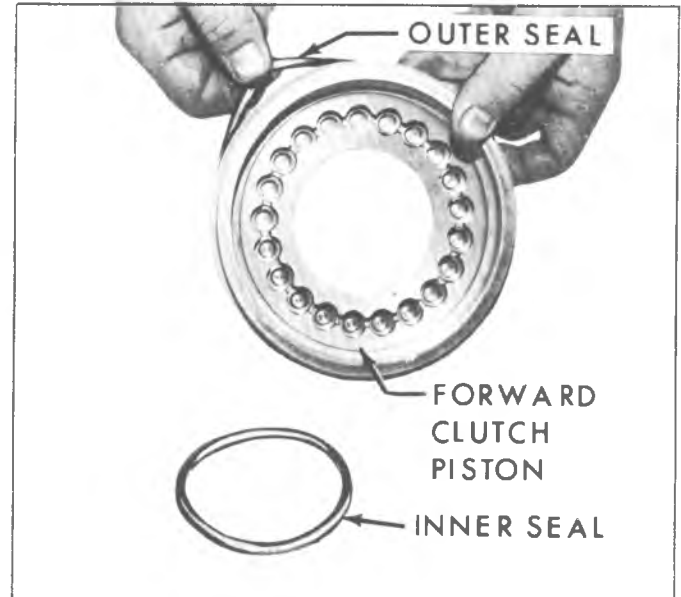

Fig. 7A-85B--Removing Forward Clutch Piston Inner and Outer Seals
2. Remove face plates, steel separator plates and cushion spring (fig. 7A-83B).